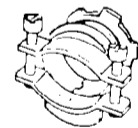
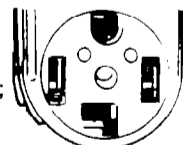

Figure 1
Figure 2
2. This washer/dryer is equipped with a 30 amp rated, four-wire, flexible type power supply cord (pigtail) and a CSA recognized strain relief. See Figure 1. Where local codes permit, it must be plugged into a mating 30 amp receptacle. (CSA type 14-30R) See Figure 2.
Where local codes permit, it must be plugged into a mating 30 amp receptacle. (CSA type 14-30R) See Figure 2.